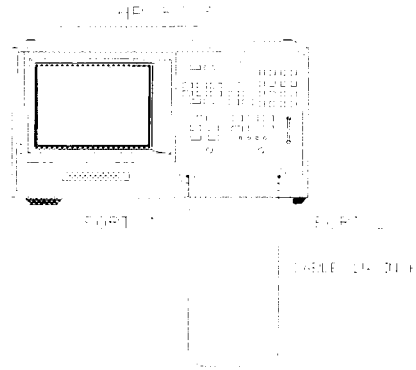

Figure 4-21. Transmission Calibration Test Setup
- 18** Connect the equipment as shown in Figure 4-21.